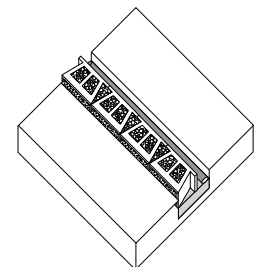

Figure 3
8. Use free-draining gravel (at least 10 mm in size) to cover the pipe, fill the cavity of the blocks and to pack between them. (see figure 3)